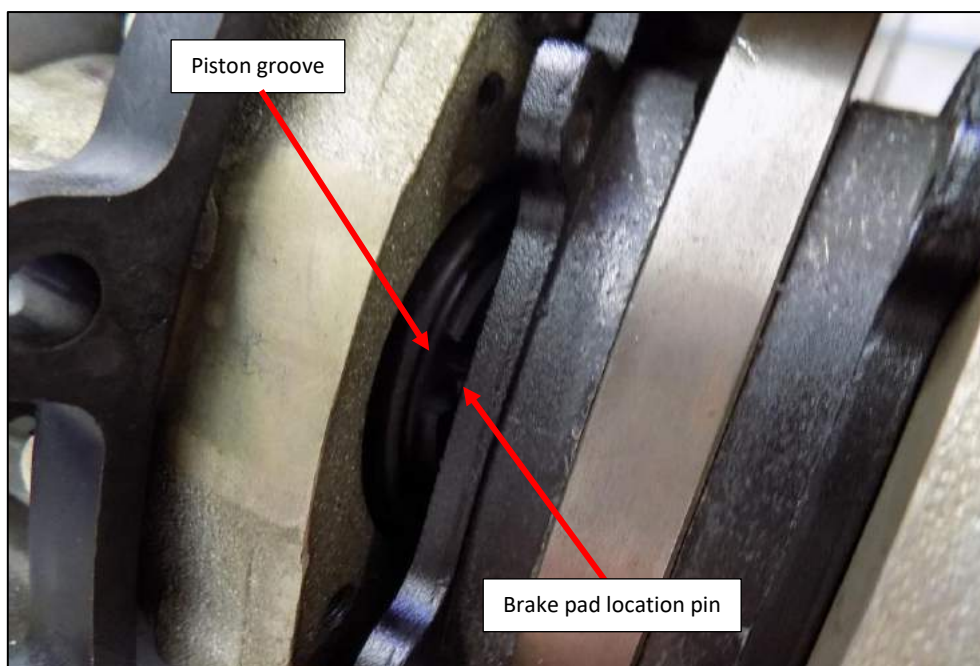

Figure 69
17. Install the inner brake pad. Ensure the location pin in the brake pad is aligned with the cut-out in the piston (Figure 69). Readjust the service piston by winding with the special tool if required.